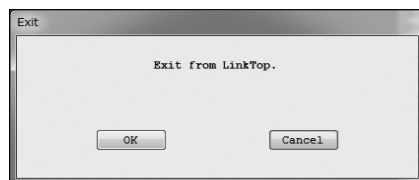

Fig.17
To exit the LinkTop, click on "File (F)" > "Exit (E)" at the top-level menu. A message box as shown in Fig. 17 appears. If you are sure to exit the LinkTop, click on "OK" button. Clicking on "OK" button will cause the application window to disappear from the desktop.